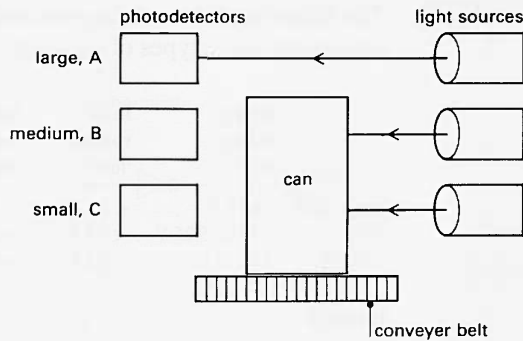

Figure C69
**14(R)** Baked beans are produced in cans of three different sizes: small, medium, and large. The cans have to be sorted ready for packaging. Three photodetectors are available that give a logic '1' output when a light shines on them; otherwise they are at logic '0'. They could be arranged on either side of a conveyer belt, as in figure C69, so that the cans would cut the light incident on one or more photodetectors.